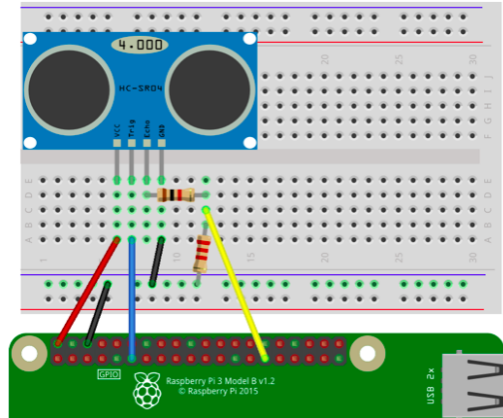

Figure 1-1 Physical sensors connection.
- And insert the jumper wires connecting the sensor leg TRIG in the GPIO0 (PIN11) and the sensor leg ECHO in the breadboard, like the scheme showed in the Figure 1-1;
The Figure 1-1 shows how the electric connection is made.